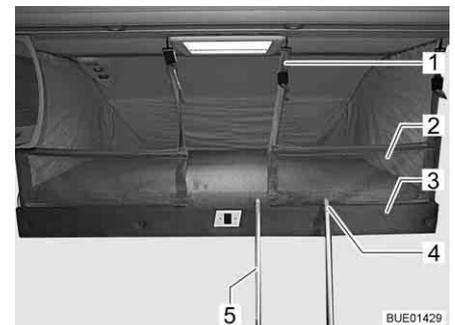

Fig. 122 Pull-down bed complete with applied safety net
If fitted, the safety net (Fig. 122,2) and the retaining belts are located beneath the mattress of the pull-down bed. Only use the safety net if persons are already in the pull-down bed.
- Attach retaining belts (Fig. 122,1) to the hooks on the ceiling.
- Hook step ladder (Fig. 122,5) to the pull-down bed by attaching the two hooks (Fig. 122,4) in the holding bar (Fig. 122,3).